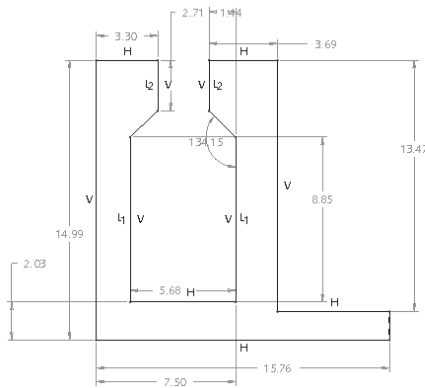

Figure 1-29 Sketch with weak dimensions and constraints
- b. Draw the sketch using the line tool, refer to Figure 1-29.
6. Select the vertex that joins lines L and M and the vertex that joins lines G and H. Both the vertices are aligned horizontally, as shown in Figure 1-29.